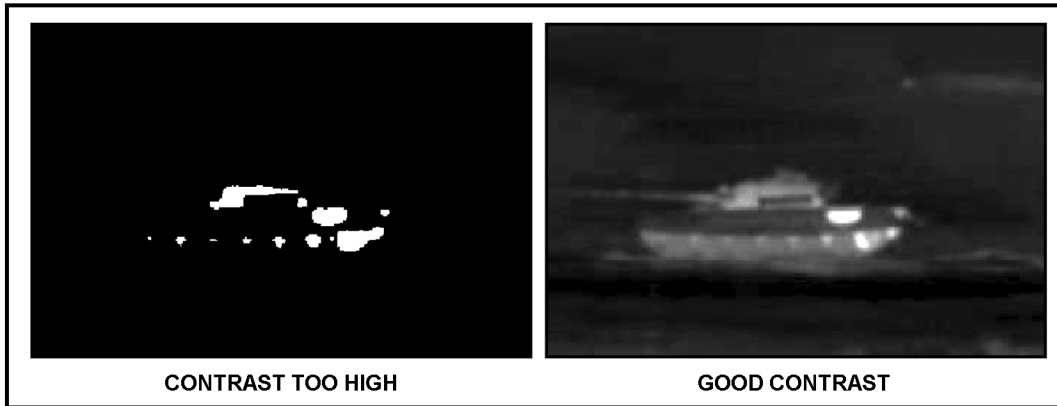

Figure C-19. High versus good contrast adjustments.
- When the contrast is too high (Figure C-19, page C-14), all objects are adjusted away from the shades of green in the middle toward the two extremes, so they appear either bright green or black. The gunner decreases the contrast by selecting CTRS on the BCF menu and pressing the BCF switch down. This decrease brings objects back from the two extremes into the shades of green.